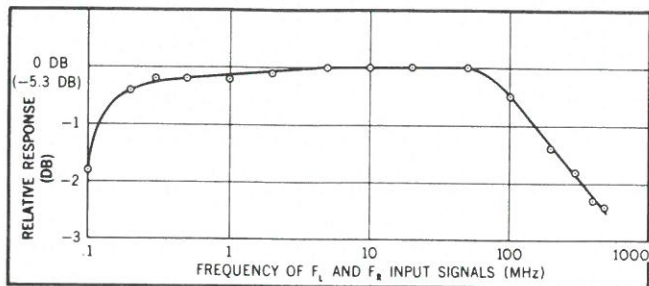

Figure 4. Relative Frequency Response
f. Figure 4 represents the relative frequency response of a typical Model 10514A, B Mixer used as a mixer (Paragraph 14), or phase detector (Paragraph 15). The lower frequency input is +7 dBm at L